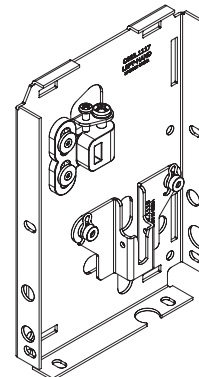

Figure 9
- 17) Lower the shade to its fully retracted position and observe the tracking on the fabric roller. Adjust the tracking by loosening the smaller screw, then, raising or lowering the fabric roller with the larger screw, as needed See Fig. 9).